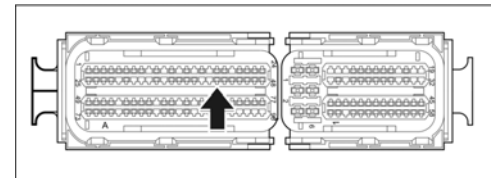

Figure 12
- 11 Insert new line from splice connection 2 into the connector for the DME control unit at **PIN 42** (⇒ *Figure 12 -arrow-*) until the contact engages securely.